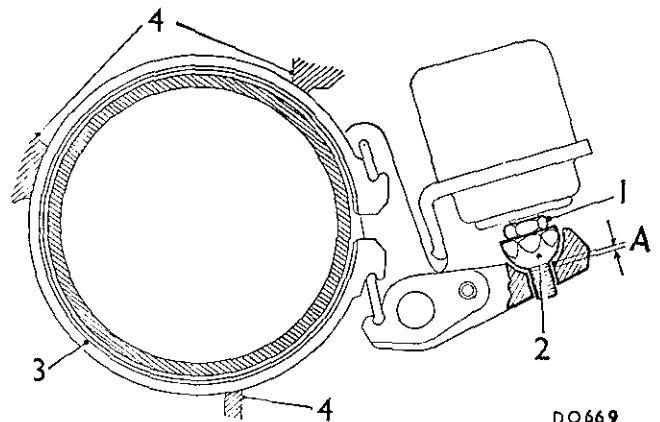

Fig. Fa.23
- (42) Screw the gear change selector rod fully into the valve block linkage. Check and reset if necessary the selector rod adjustment (see Section Fa.2).
- (43) Adjust the second, third, and reverse servos (see Fig. Fa.23). Slacken the locknut (1) and the spherical adjuster (2) until each brake band (3) is in contact with the transmission casing stops (4). Adjust each adjuster (2) until the clearance 'A' is obtained, and tighten the locking nut (1).
- (44) Fit a new seal to the front cover bobbin, and refit the cover using a new joint washer. On early units the front cover connecting bobbin can be removed and requires two oil seals.